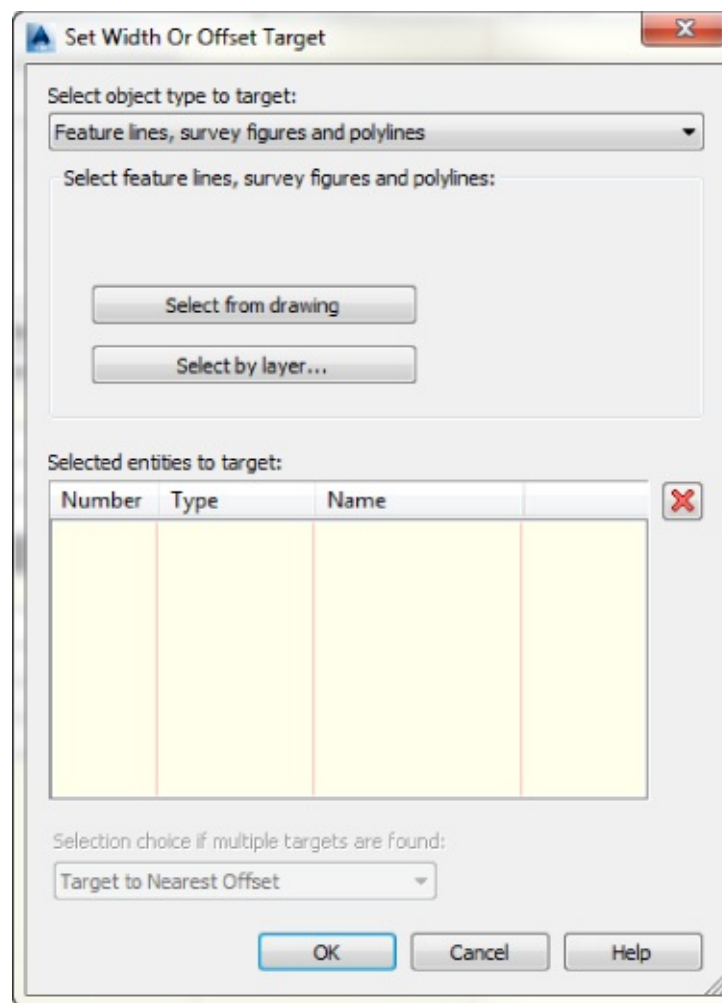

Figure 10.57 The Select Object Type To Target drop-down list at the top of the Set Width Or Offset Target dialog
6. Choose Feature Lines, Survey Figures And Polylines from the Select Object Type To Target drop-down list (see Figure 10.57).